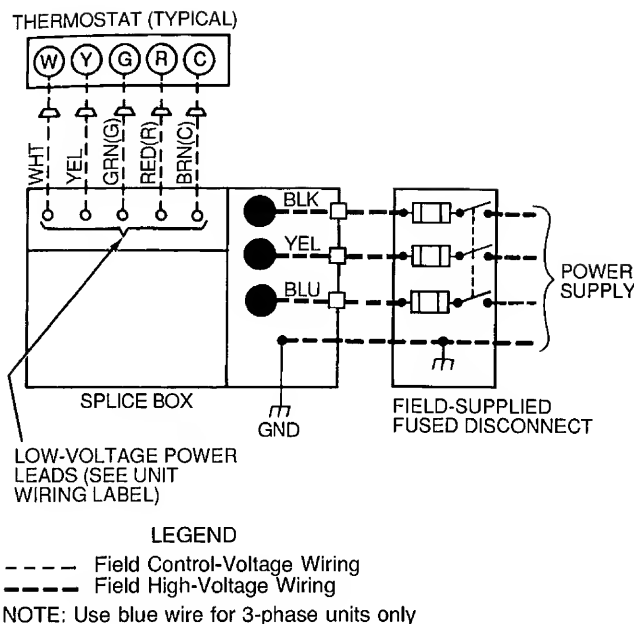

Fig. 21 — High- and Control-Voltage Connections
5. Strip back leads and connect to high voltage leads. On 3-phase units, blue wire is provided stripped back and ready to connect to high voltage lead. See unit wiring label and Fig. 21.
Locate five 18-gage wires leaving control box. These low-voltage connection leads can be identified by the colors red, green, yellow, brown, and white). (See Fig. 21.) Cut wires at the point where they exit control box. On 48SX024,030, do not cut yellow wire. Stripped yellow lead is located in connection box. Ensure the leads are long enough to be routed into the low-voltage splice box located below the right side of the control box. Route leads through hole in bottom of control box and make low-voltage connections as shown in Fig. 21. Secure all cut wires, so that they do not interfere with operation of unit.
Alternate Connection — Remove knockout in compressor fixed panel located below high-voltage knockout. Remove rubber grommet from standard low-voltage power entry and install it in hole left when knockout was removed. Route thermostat wires through grommet providing drip loop at panel. Connect low-voltage leads as shown in Fig. 21. On 48SX024 and 030 units, the yellow wire originating from discharge thermostat of compressor must be cut and routed into low-voltage section of junction box.